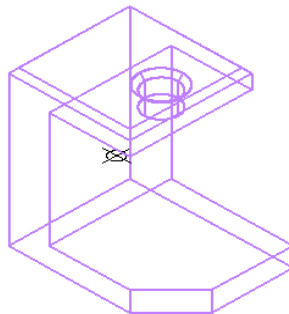

Figure Step 10A
Step 10 On layer: Construction, insert a point at the centroid of the model using the POINT command as shown below. Change the point style and your model should appear similar to the figure. The shaded model rotated also is displaying a point at the centroid. (Figure Step 10A and 10B)